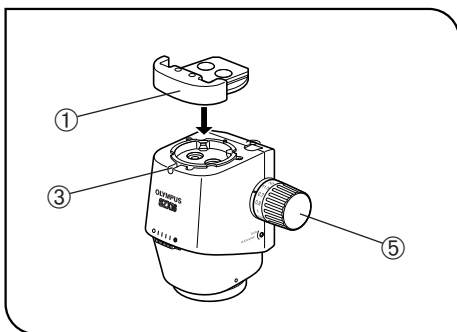

Fig. 9
2. Loosen the clamping screw ③ on the microscope body using the Allen screwdriver, and attach the adapter ① in that position. (Fig. 9)
3. The screw ④ of the interlocking section of the vertical fluorescence illuminator is tightened when shipped from the factory (interlocking disengagement condition). By way of precaution, use the Allen screwdriver to tighten the screw ④ (by turning it clockwise) fully until it will not move any more.
4. Hold the microscope body with both hands, insert it into the adapter ① all the way until it stops, and then tighten the clamping screw ② firmly.
5. Using the Allen screwdriver, loosen the screw ④ of the interlocking section (by turning the screw counterclockwise) fully until the screw will not move any more.
6. Gently rotate the zooming knob ⑤ all over the magnification scale and repeat reciprocations for a few times.